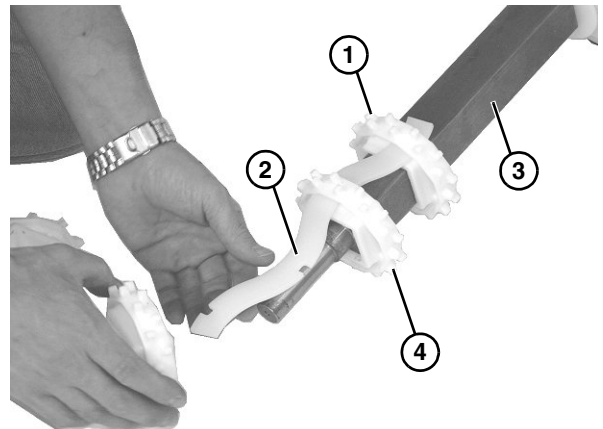

Figure 47
13. To assemble sprockets onto drive spindle, slide one sprocket (**Figure 47, item 1**) onto alignment bar (**Figure 47, item 2**) and slide assembly onto drive spindle (**Figure 47, item 3**).
14. Install second sprocket (**Figure 47, item 4**) and subsequent sprockets one by one, while sliding entire assembly onto alignment bar and spindle.